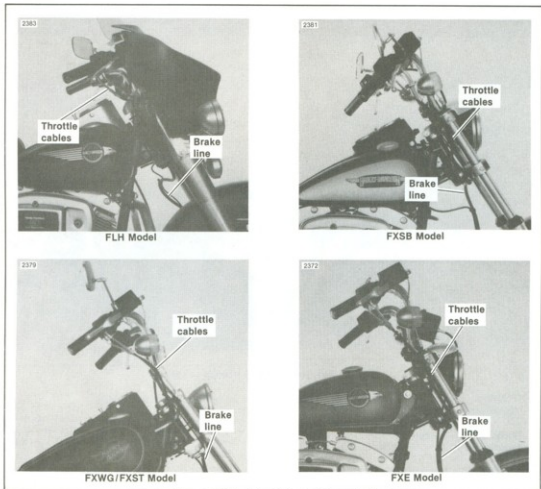

Figure 2-90. Throttle Cable Routing — 1984
8. See Figure 2-90. (1984 Models).